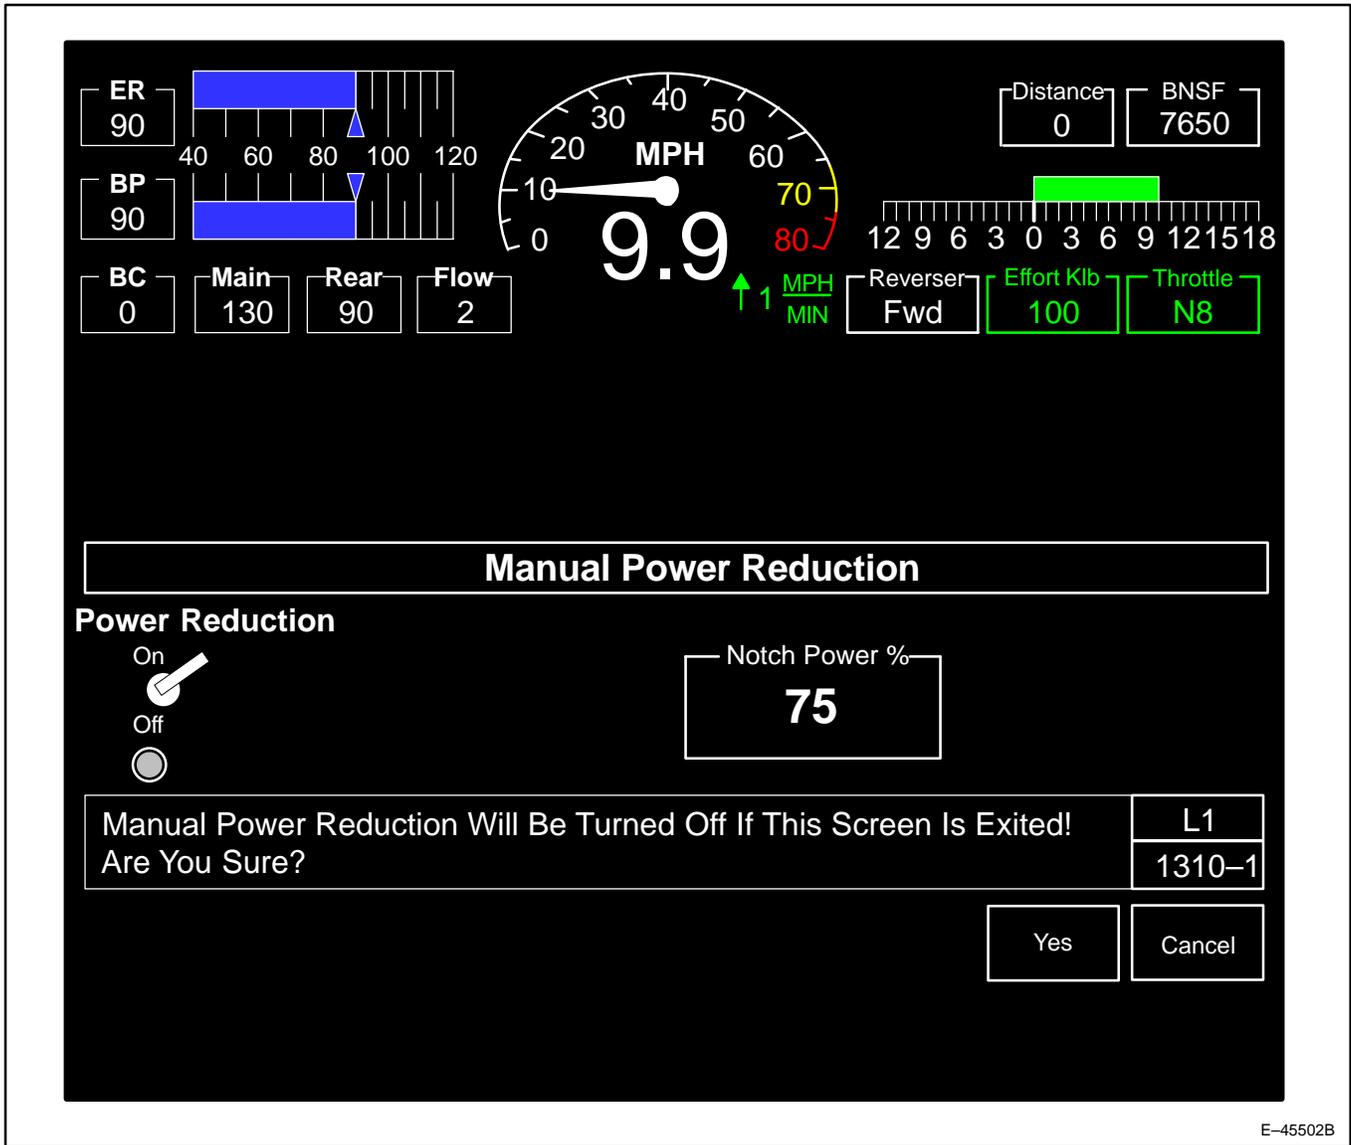

Figure 58. Manual Power Reduction Exit Screen (1310-1).
- d. Key position F8 (**Exit**) – Key position F8 (**Exit**) – will bring up screen 1310-1 (Figure 58), on which the message “Manual Power Reduction Will Be Turned Off If This Screen Is Exited! Are You Sure?” will be displayed. Two keys are available: **Yes** orders the control system to turn Power Reduction off and Mode to MU and return the operator to the Main Operation screen (0000-0), and **Cancel** returns the operator to screen 1310-1 with Manual Power Reduction still on.